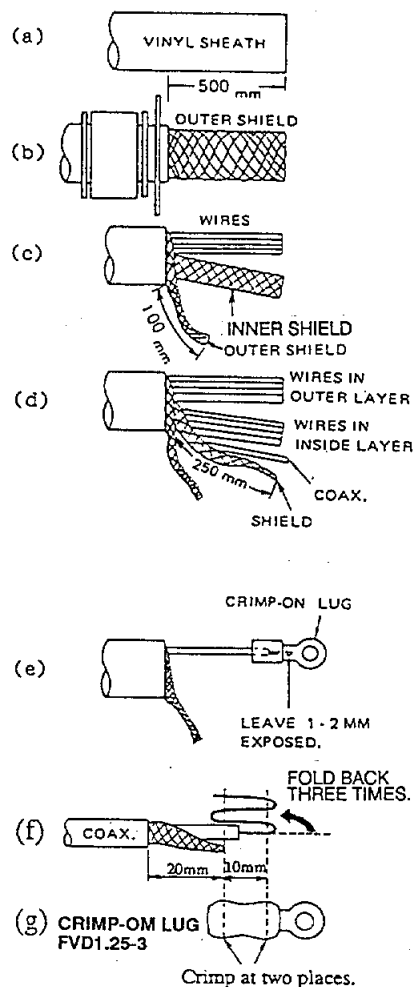

Figure 6-4
4. Cut the cable to a suitable length, leaving about 800 mm from the cable gland. Fabricate the cable by referring to Figure 6-4.
1. Being careful not to cut the outer shield, remove the vinyl sheath by 500 mm. Figure 6-4(a).
2. Slide washer, rubber packing, washer and clamp plate of the gland onto the cable. See Figure 6-4(b).
3. Straighten the outer shield and separate the outer layer wires from those inside the braided shield (inner wires). See Figure 6-4(c).
4. Take out the wires and coaxial wire from the inside layer. See Figure 6-4(d).
7. Remove the vinyl insulation of each core by 6 mm. Fix crimp-on lug FV1.25-L3 (red) to each wire by using a crimping tool. See Figure 6-4(e).
8. Fabricate the end of the coaxial wire as shown in Figure 6-4(f).
9. Fix crimp-on lugs FVD1.25-3 (red) and FV1.25-L3 (red) to coaxial cable and its shield, respectively. See Figure 6-4(g).